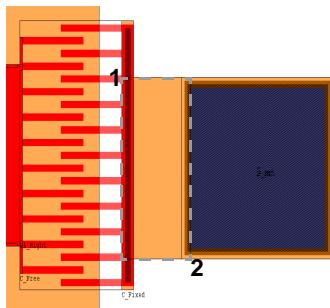

Figure 23: Attaching the first bonding pad
- Position the bonding pad slightly to the right of the right comb-drive (Figure 23).